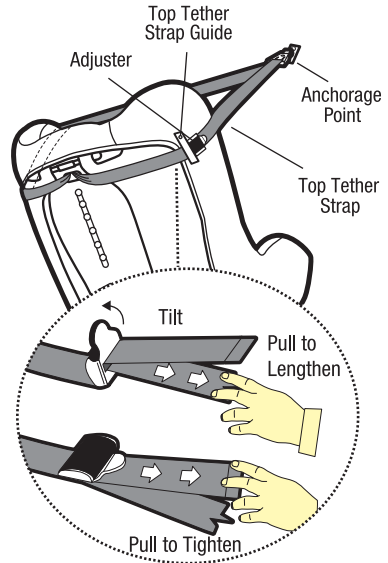

Figure 9
Step 8: Pull to tighten to remove all the slack, from the upper anchorage strap. Do not overtighten as this could cause the restraint to lift off the vehicle seat (refer Figure 9).